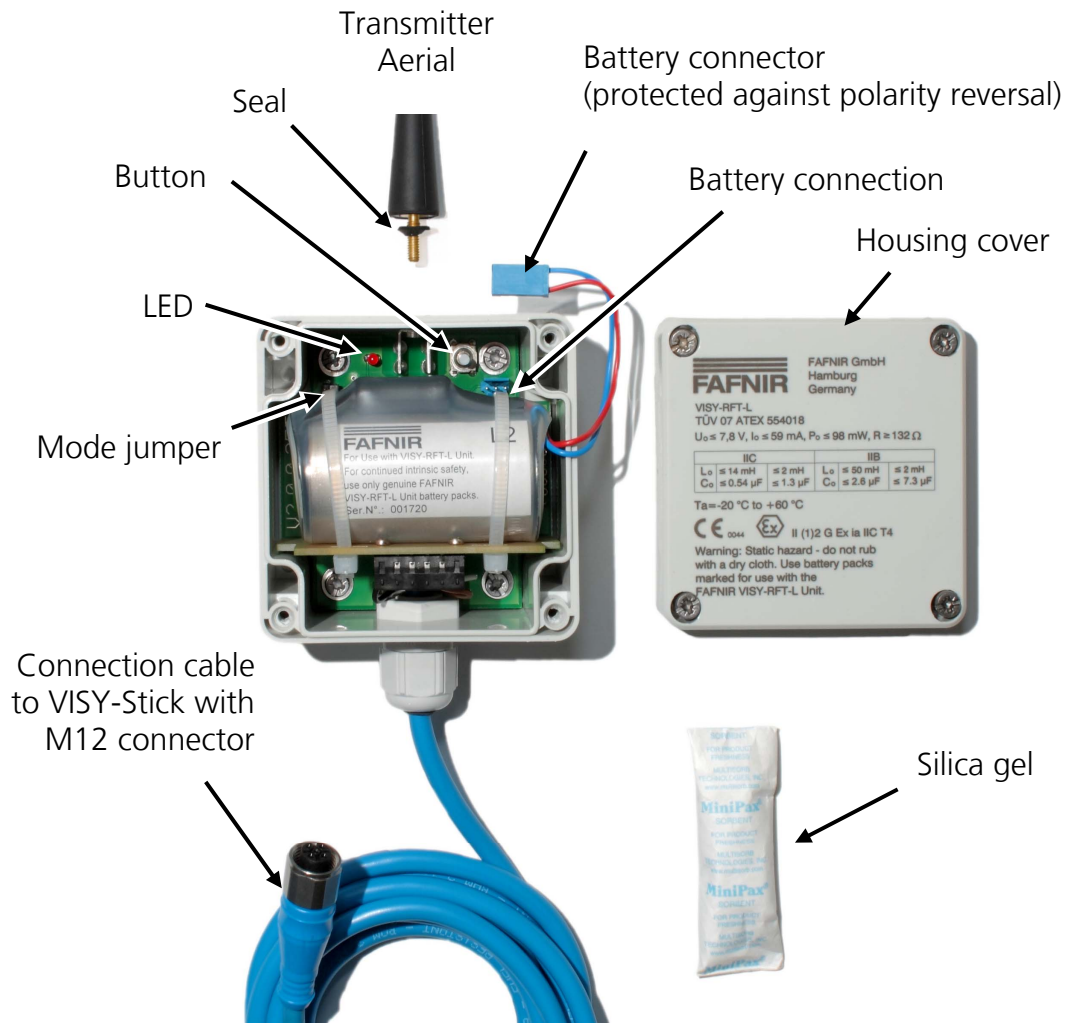

Figure 9: VISY-RFT-L radio transmitter with cover removed
- Open the cover of the VISY-RFT-L radio transmitter and connect the battery connector to the appropriate contacts (see Figure 9). Check that the LED lights up for three seconds as soon as the connector is connected. Place the silica gel back inside the housing and close the cover.